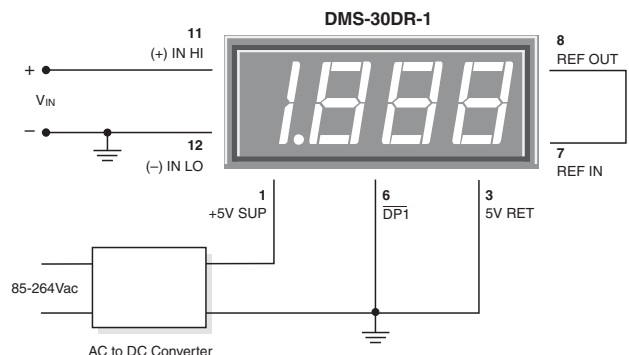

Figure 2. Single-Ended Input Configuration
- 1. Single-Ended Input Configurations:** True single-ended measurements can be made with any DMS-30DR meter. The circuit of Figure 2 avoids problems normally associated with ground-loop currents. Separate ground runs should be used for 5V RETURN (pin 3) and (–) INPUT LO (pin 12). This will ensure that large LED currents will not flow in the wiring that connects V_{IN} to (–) INPUT LO (pin 12). Ground-loop currents can cause unstable readings.